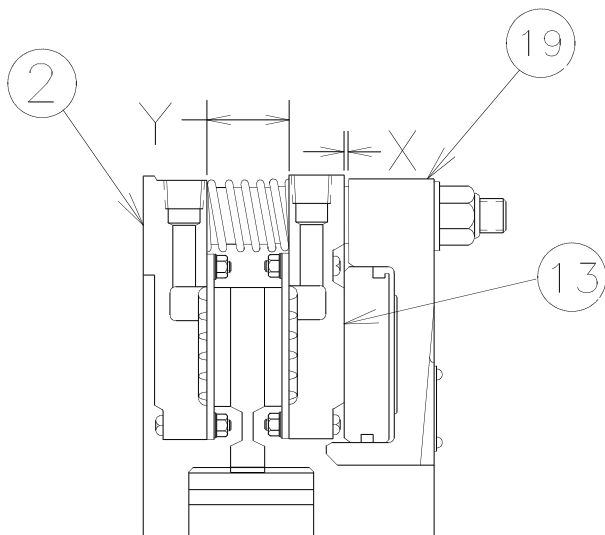

Figure 7
Apply approximately 25 PSIG (1.7 bar) air pressure to the cylinder to engage the tensioner. Measure the "X" gap between the cylinder (19) and the pressure plate (13) or the gap "Y" between the pressure plate (13) and the mounting flange (2) as shown in **Figure 7**. If either gap exceeds the limits shown in Table 10, the friction discs and/or wear plates must be inspected to ensure that the wear limits listed in Table 13 have not been exceeded.